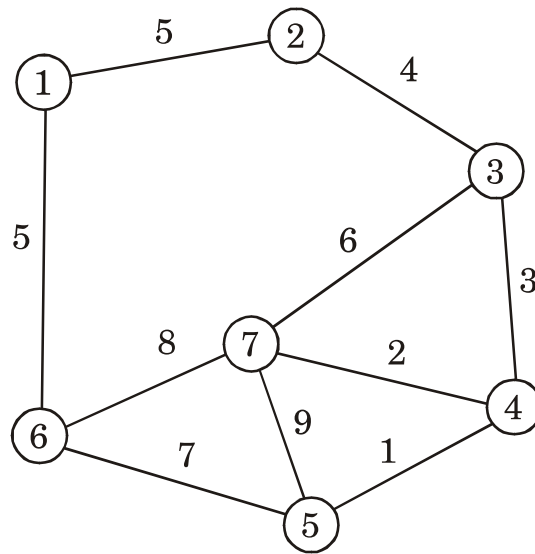

Fig. 1
3. (a) What is minimum spanning tree ? Find out minimum spanning tree for the given graph step-by-step. (Refer Fig. 1) [8]